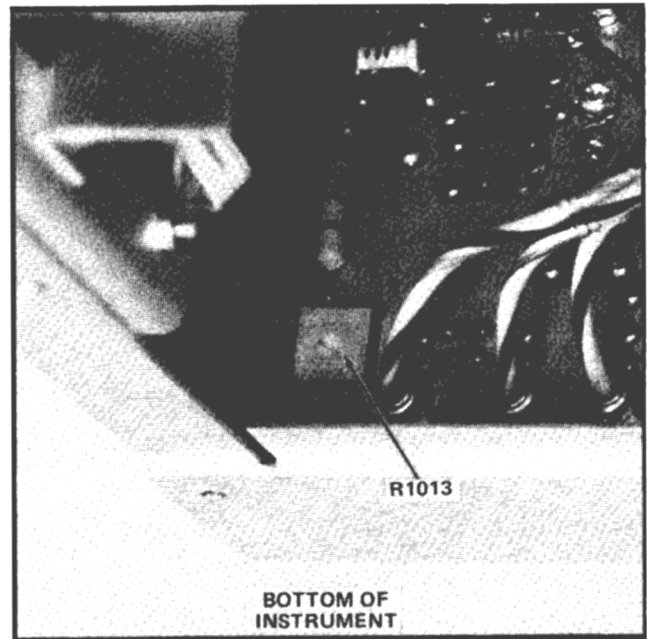

Fig. 2-9. Location of Vertical Sig Out Centering Adjustment.
h. ADJUST—Vertical Signal DC centering adjustment R1013 for a DC level of zero volt within one volt (see Fig. 2-9).